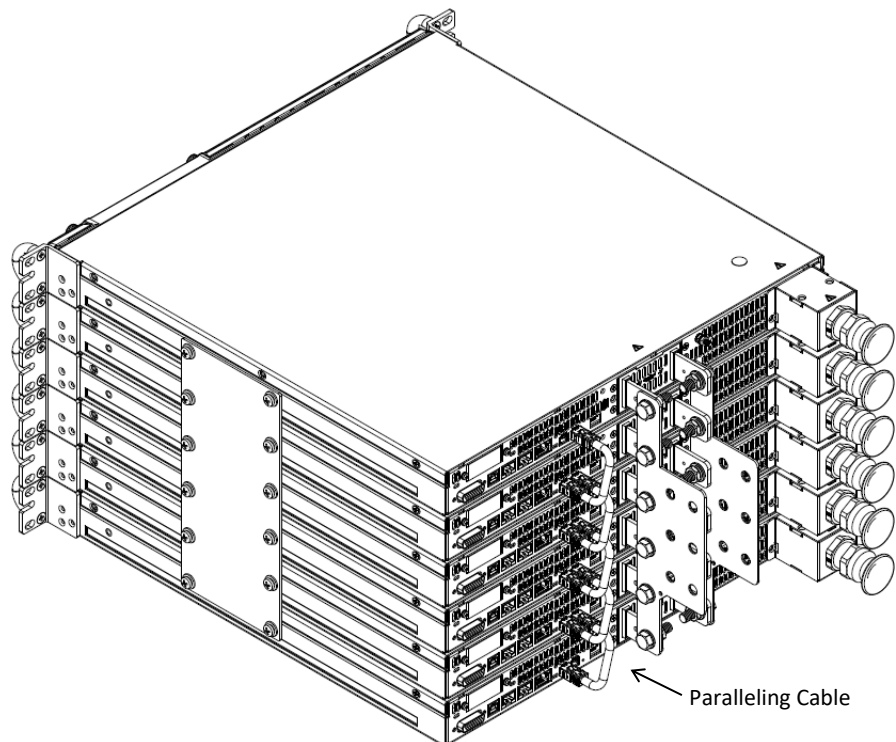

Figure 3: Six 60V-100V Units Paralleling Cable Connection
2. Connect five paralleling cables from top unit M connector to bottom unit S connector as illustrated in Figure 3.